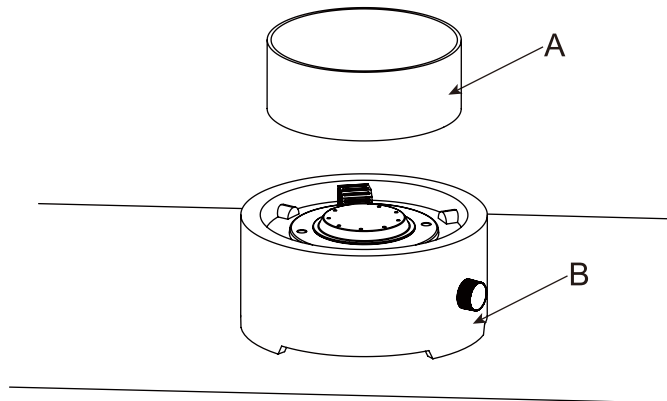

Figure 3
4. Insert glass shield (A) onto the top of fire pit body (B) (see Figure 3).